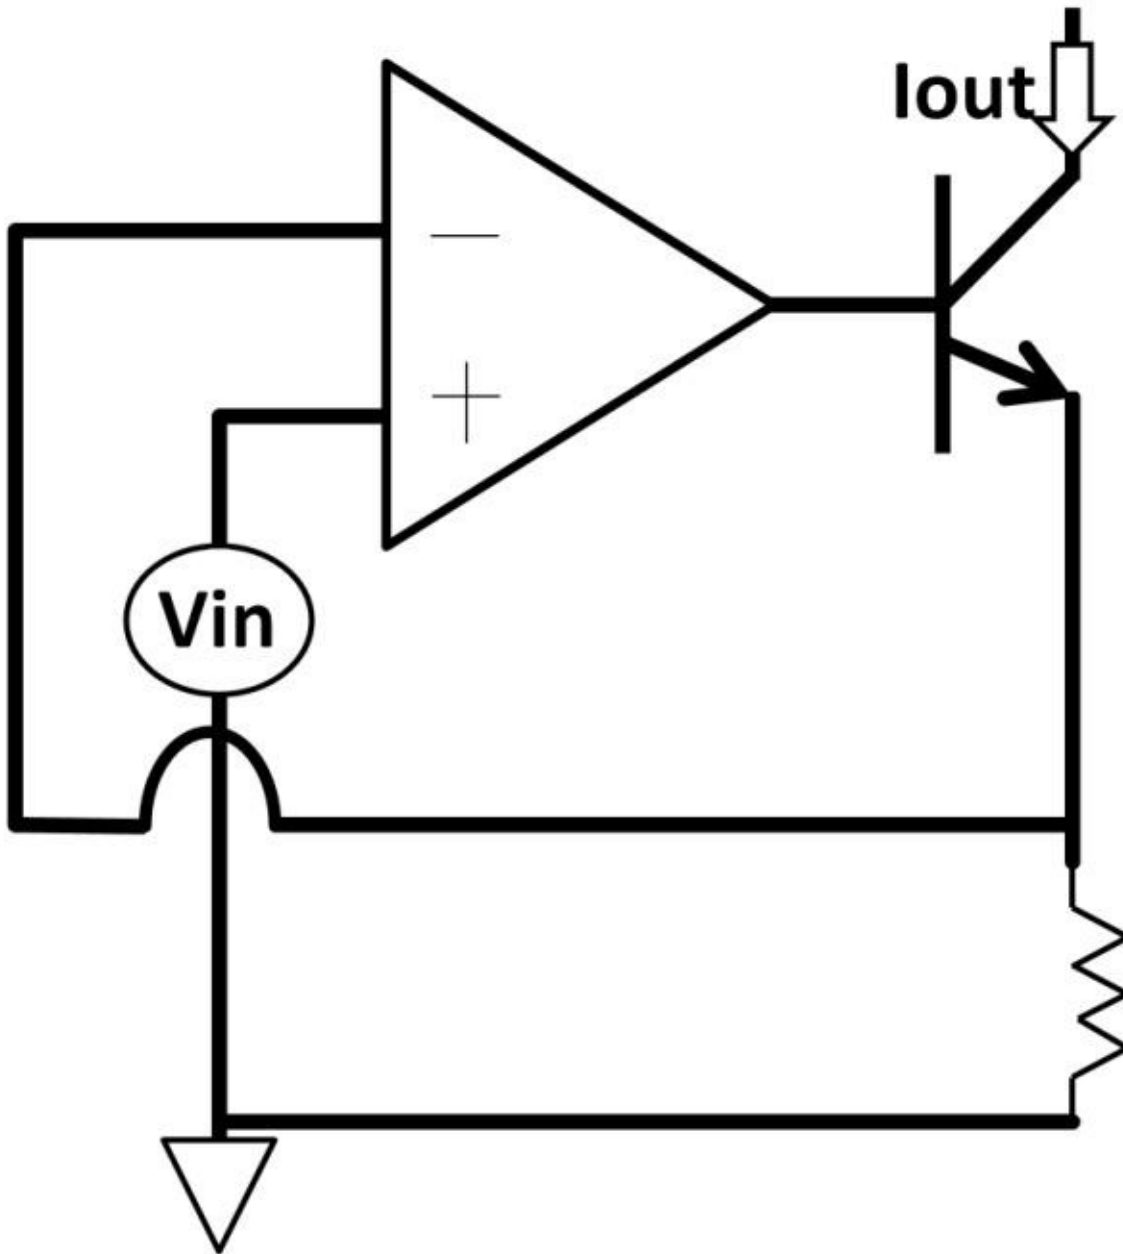

Figure 4.98:
3) $V_{in} = 5\text{ V}$, $R = 1\text{ k}\Omega$. Calculate **1)** Output current (I_{out}), **2)** NPN base voltage. $V_{BE} = 1\text{ V}$. Hint: $I_B = 0\text{ A}$. Op-amp is connected as a voltage follower (see figure 4.98).